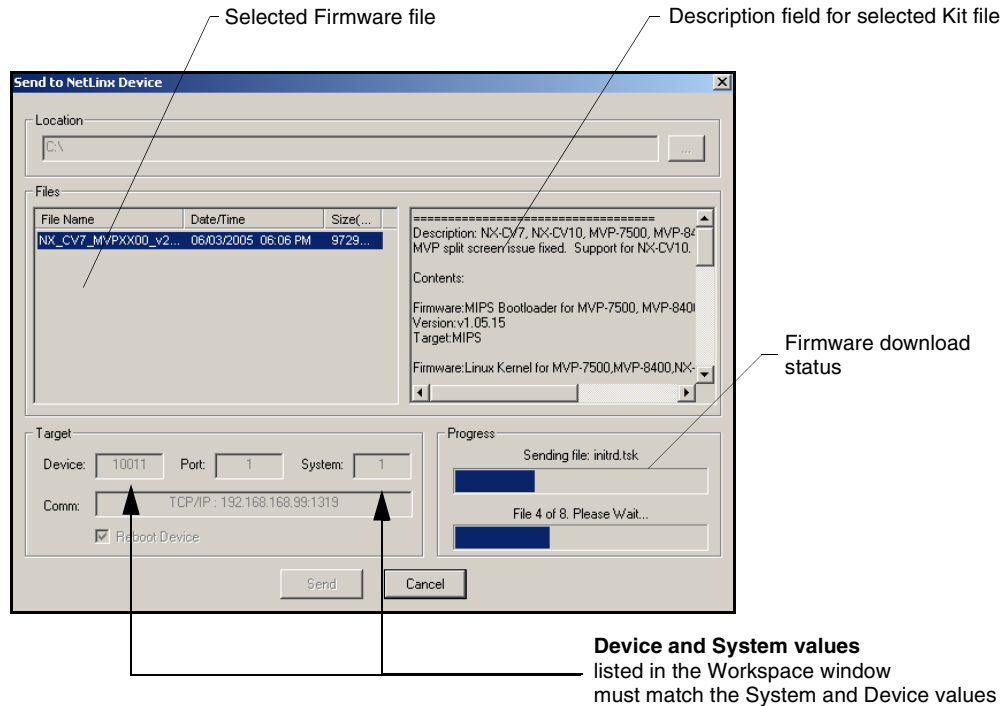

FIG. 82 Send to NetLink Device dialog (showing Modero firmware update via IP)
6. From within Studio, select **Tools > Firmware Transfers > Send to NetLinx Device** from the Main menu to open the Send to NetLinx Device dialog (FIG. 82). Verify the panel's System and Device number values match those values listed within the System folder in the **OnLine Tree** tab of the Workspace window.
7. Select the panel's Kit file from the **Files** section (FIG. 82).
10. Click **Send** to begin the transfer. The file transfer progress is indicated on the bottom-right of the dialog (FIG. 82).